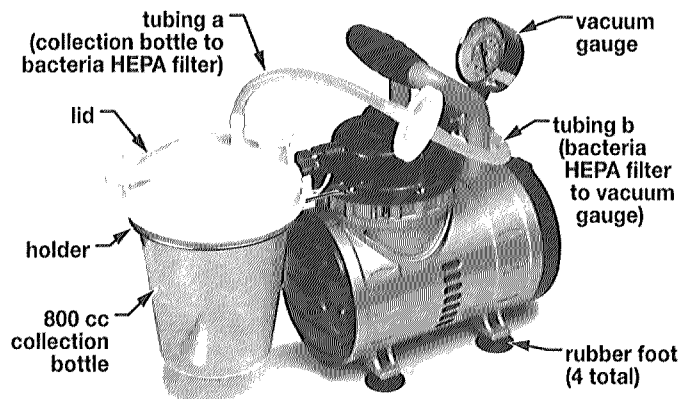

Figure 1
- a. Connect one end of tubing a to the top of the collection bottle connector and the other end to the bacteria HEPA filter, as shown in Figure 1.
- b. Connect one end of tubing b to the open end of the bacteria HEPA filter and the other end to the vacuum gauge, as shown in Figure 1.